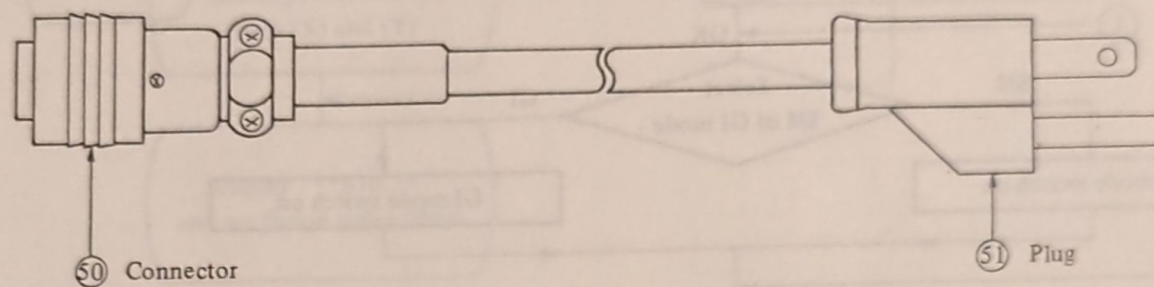

Fig. 7 AC Power Cord
AC power cord has the connector ⑤① to be fixed to the AC power terminal ②② at one end and the plug ⑤① for AC power source at the other end. Fig. 7 shows AC power cord.